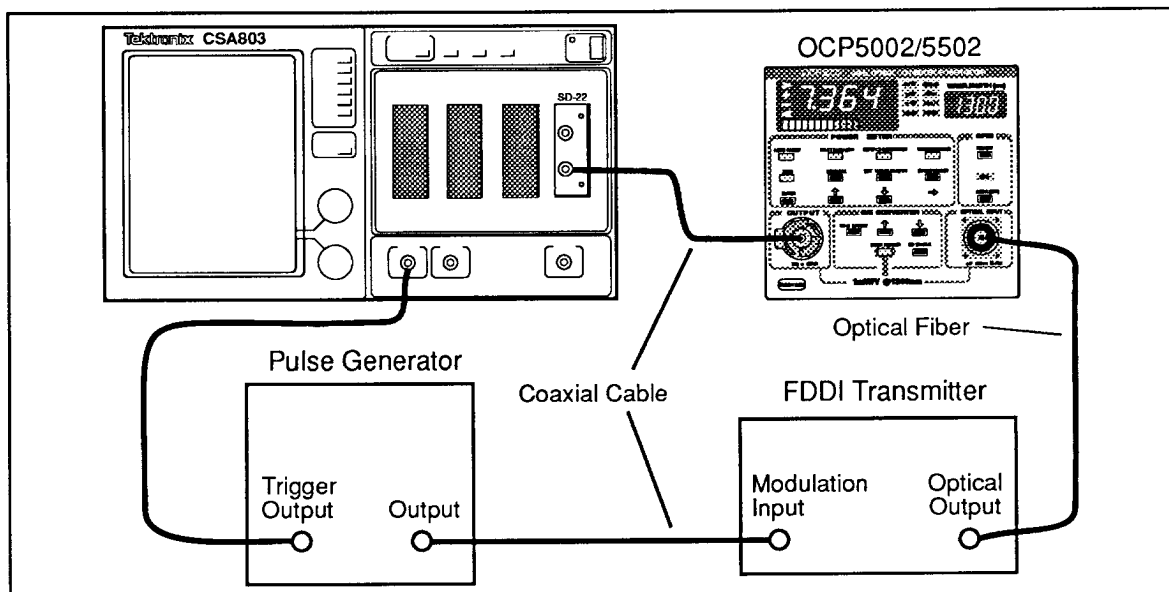

Figure 3-6. Equipment Connections for FDDI Test.
4. Using an optical fiber that has connectors compatible with your equipment, connect the OCP **OUTPUT** to the input of the SD22 sampling head. Figure 3-6 shows the equipment connections.